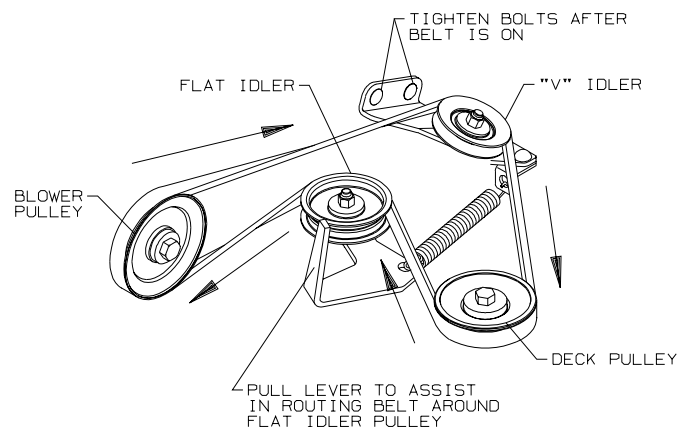

FIGURE 8
8. Install blower drive belt so that blower rotation is clockwise when viewed from the operator's position. Belt will be easiest to install if it goes on the flat idler pulley last. Pull lever in Figure 8 to assist in routing belt around flat idler. After belt is installed, make certain the bolts are tight on the bracket supporting the rear "V" idler pulley. Refer to Figure 8.